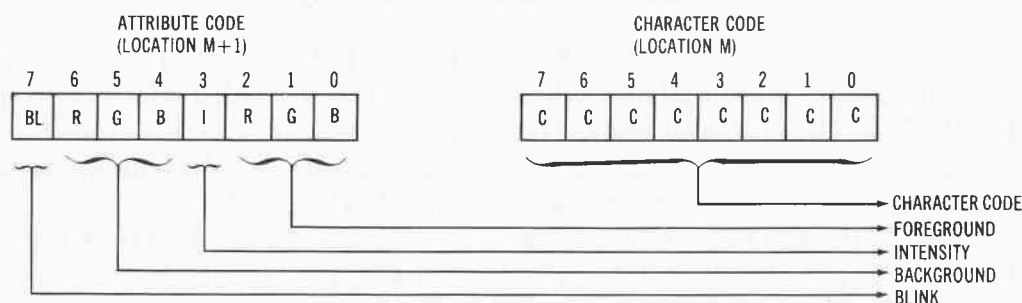
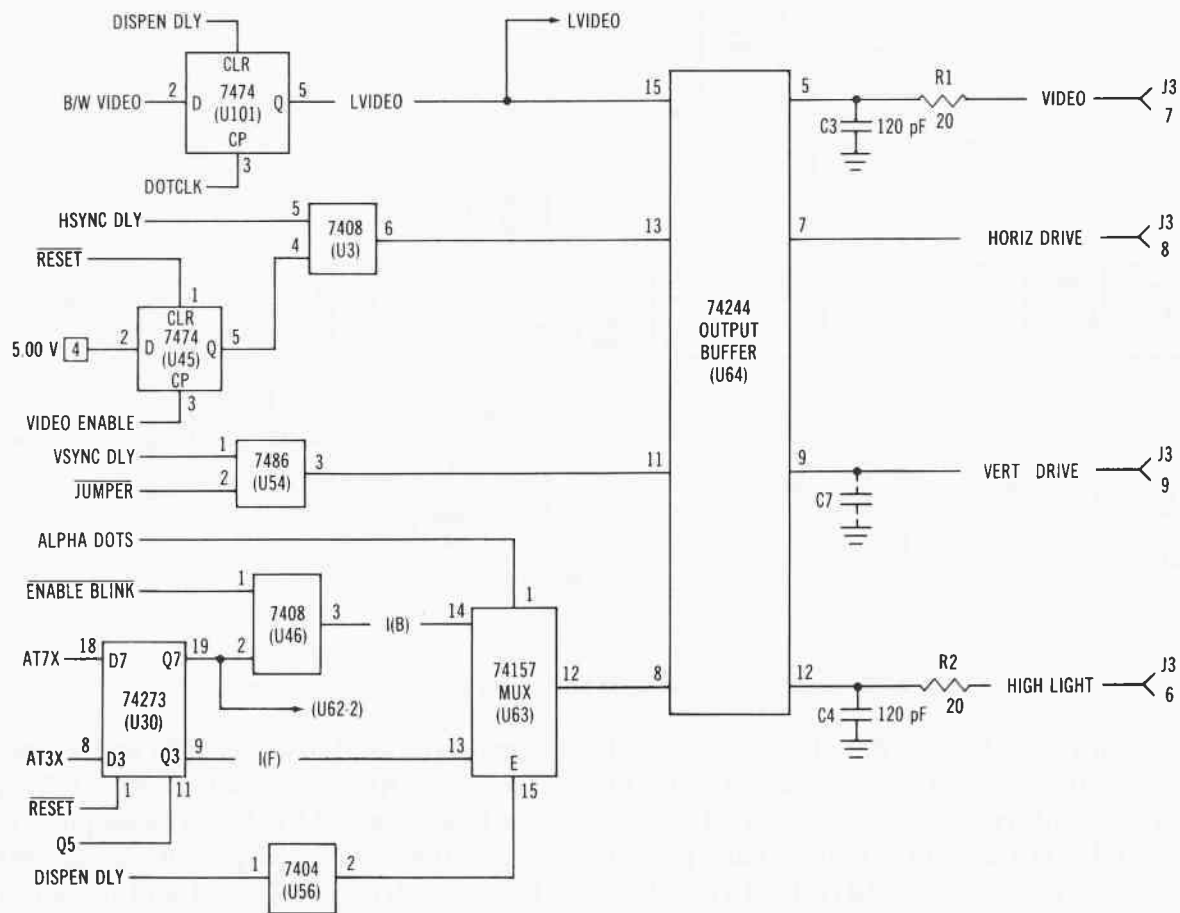

Fig. 2-77. Character and attribute codes.
Fig. 2-81. Monitor adapter video output circuitry.
Up to 256 different character codes can be stored in the 4K display buffer. Each character is represented by a unique character and attribute code pair, as shown in Fig. 2-77. Even address locations hold the character codes; odd address locations contain the attribute information. A character code and an attribute code are fetched from the display buffer every 552 ns producing a video data rate of 1.8 megabytes per second. The contents of this 4K buffer can be read into the system board by DMA action.
is shown in Fig. 2-81. B/W VIDEO is clocked through U101 and U64 to become the VIDEO dot pattern information passed out J3 pin 7. HSYNC DLY is ANDed in 74LS08 U3 and passed through U64 to become HORIZ DRIVE pulses on J3 pin 8, and VSYNC DLY is exclusive ORed in 74LS86 U54 and buffered through U64 to become VERT DRIVE pulses on J3 pin 9.
The fourth important output from this logic circuitry is the intensity signal (HIGH LIGHT) on J3 pin 6. Figure 2-81 shows that this signal originates from the high bit (AT7X) of the attribute byte coming out of the 2K attribute RAM. As described with Fig. 2-77, the high bit can be toggled to turn on and off the blink function. Bit 3 (AT3X) of the attribute word is used to control the intensity of the character being displayed. Buffered attribute bits AT3X and AT7X are latched into two flip-flops in 74LS273 octal D flip-flop U30. The Q7 output (pin 19) is ANDed with (ENABLE BLINK)\* to produce a bright blinking character control intensity blink signal I(B) on pin 3 of U46. The Q3 output (pin 9) is the full intensity control signal I(F).